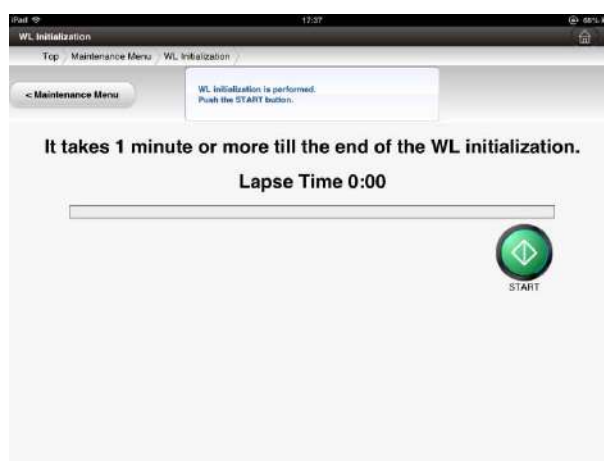

Fig. 6-43 Wavelength Initialization Execution Screen
- (2) Press the  [WL Initialization button] on the Maintenance screen. The Wavelength Initialization Execution screen (Fig. 6-43) is displayed.